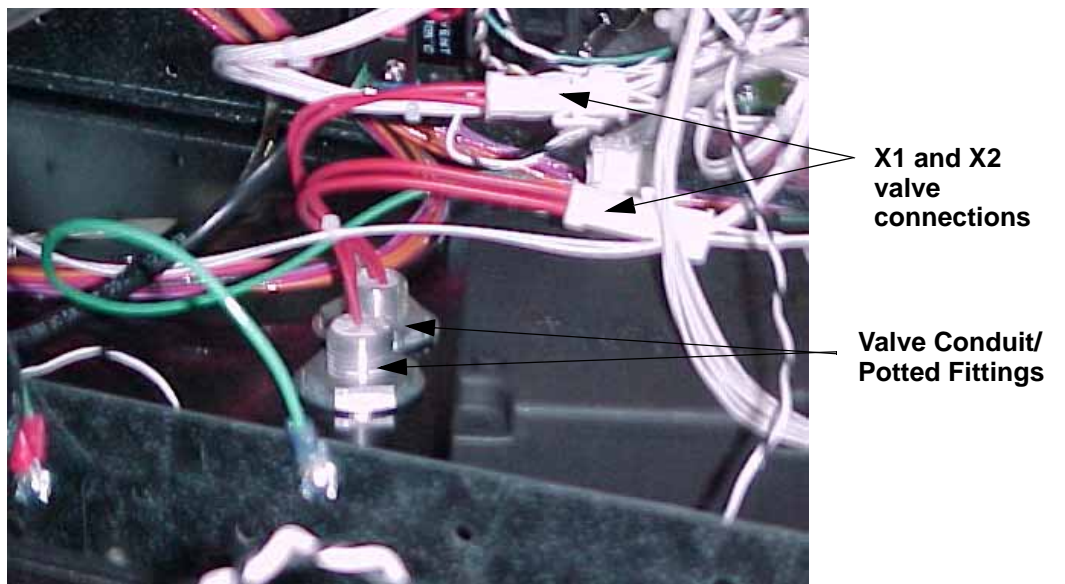

Figure 2-3 Remove Solenoid Valve Connections
12. Disconnect solenoid valve wires and remove cable assy p/n 887344-001. See Figure 2-3.